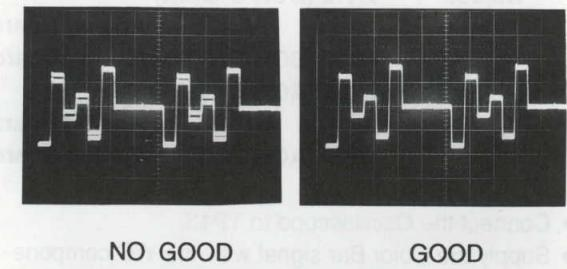

Fig. 4-10-2
- Adjust VR25 so that the waveform coincides as shown in the Fig. 4-10-2.